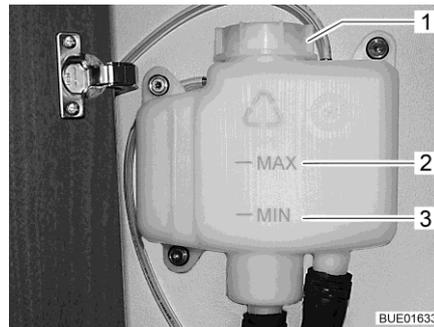

Fig. 280 Compensator reservoir without panel
- Check if the fluid level is between the marks "MIN" (Fig. 280,3) and "MAX" (Fig. 280,2) on the compensator reservoir (Fig. 280).
- Open the rotary lid (Fig. 280,1) on the compensator reservoir.